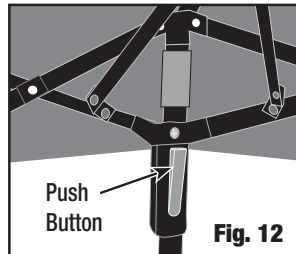

Fig. 12
- Press the push buttons found at upper corners of the frame (Fig. 12). Collapse shelter frame and store in carry bag.